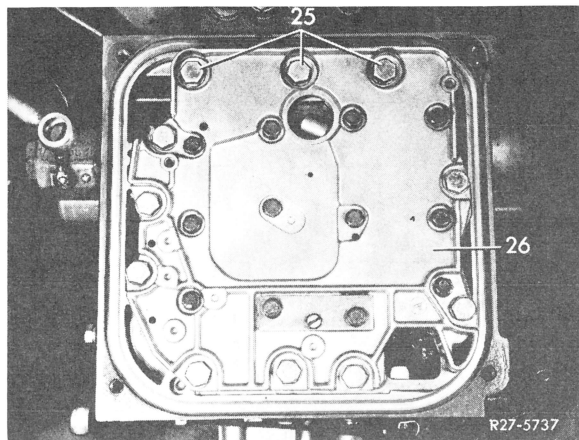

Fig. 3
4 Move selector lever in position "P". Unscrew fastening bolts (25) of shift valve housing (26) and remove shift valve housing (Fig. 3).
9 Screw-in fastening bolts (25) with spring washers and tighten to 1.3 kpm (Fig. 3).